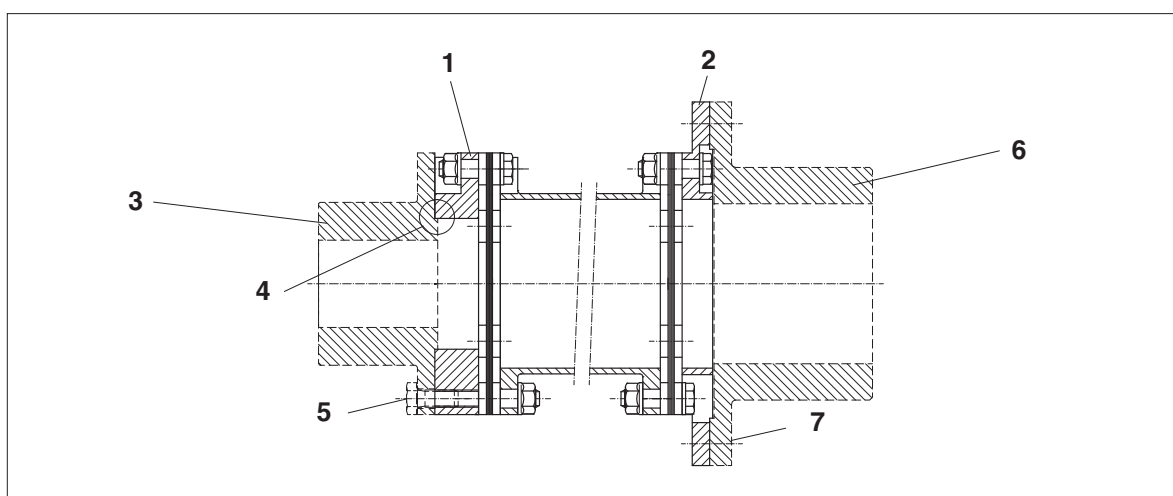
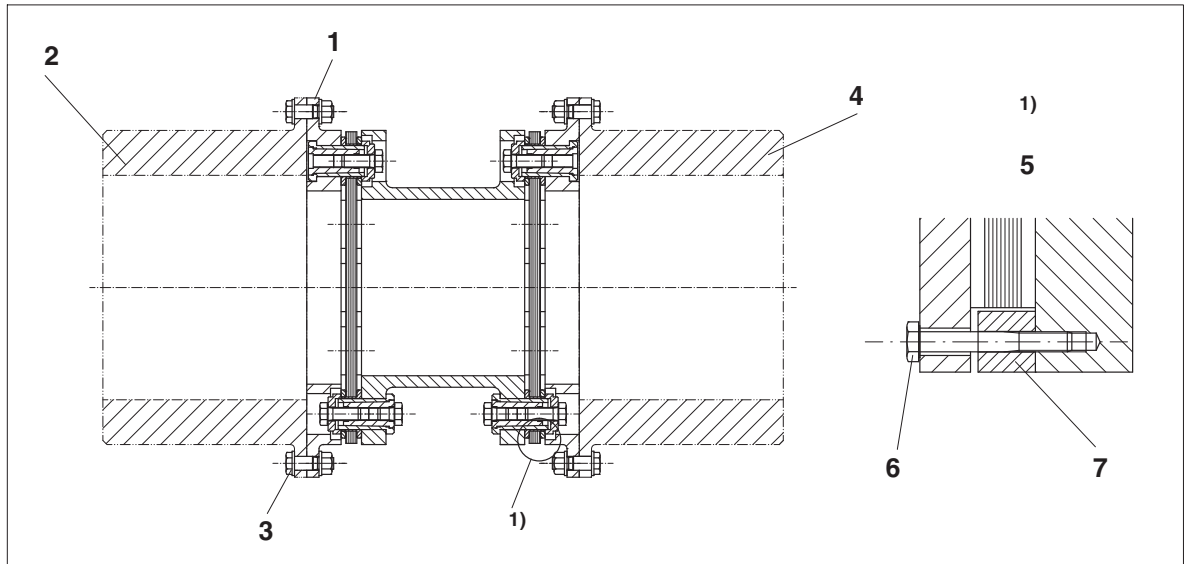

Fig. 18: "C" and "F" flange screw connection (example ARS)
Fig. 19: F-flange connection (example ARC)
- The "recess" (centering pin, Fig. 18) or fitting bores (Fig. 19) and the contact face of the "C", "D" and "F" flange must be inspected for any damage and, if necessary, reworked.
If intermediate units with prefitted plate packs are used, they should not be demounted. The plate packs are secured with transport locks (they are also used to facilitate assembly; see Detail "X" – figure 19).
Coupling types with prefitted plate packs must be checked before start-up to ensure that the **transport locks** (see detail "X" – Figure 19) have been **completely removed**.